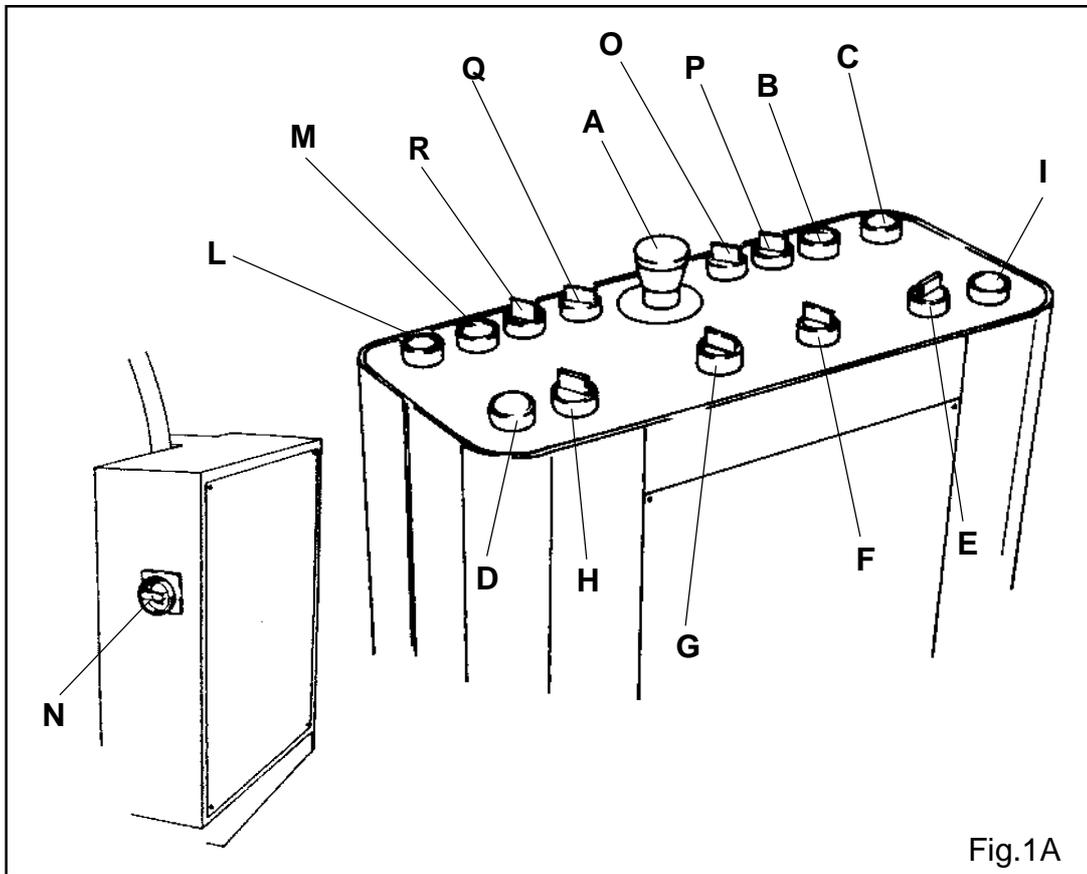

Fig.1A
- A (Fig. 1A) = Emergency Button
- B (Fig. 1A) = Movable Head's Motor OFF Button
- C (Fig. 1A) = Movable Head's Motor ON Button
- D (Fig. 1A) = Blade's way out Button
- E (Fig. 1A) = Movable Head's Tilting Selector
- F (Fig. 1A) = Clamps and Movable Head's Carter Closing Selector
- G (Fig. 1A) = Clamps and Fixed Head's Carter Closing Selector
- H (Fig. 1A) = Fixed Head's Tilting Selector
- I (Fig. 1A) = Blade's way out Button
- L (Fig. 1A) = Fixed Head's Motor ON Button
- M (Fig. 1A) = Fixed Head's Motor OFF Button
- N (Fig. 1A) = Main Switch
- O (Fig. 1A) = Minimum cut clamp Selector
- P (Fig. 1A) = Minimum cut piston Selector
- Q (Fig. 1A) = Central pneumatic support Selector
- R (Fig. 1A) = Brake Selector